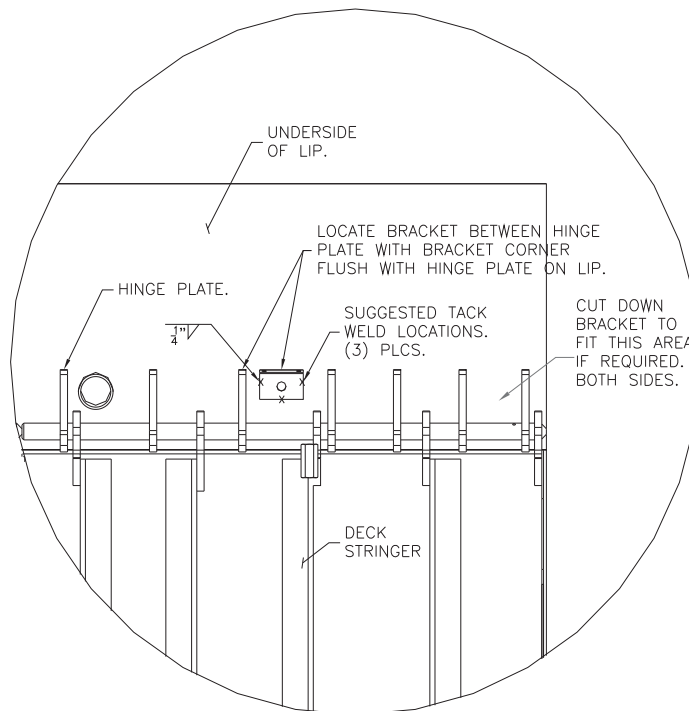

FIGURE 19
3. Locate a bracket at each predetermined location. The bracket's long side should be against the underside of the leveler lip, while the short side points downward. Locate the bracket in the space as such that it will not interfere with the levelers operation. The corner of the bracket should be flush with the outside edge of the hinge plate. (See Figures 19 & 20.)